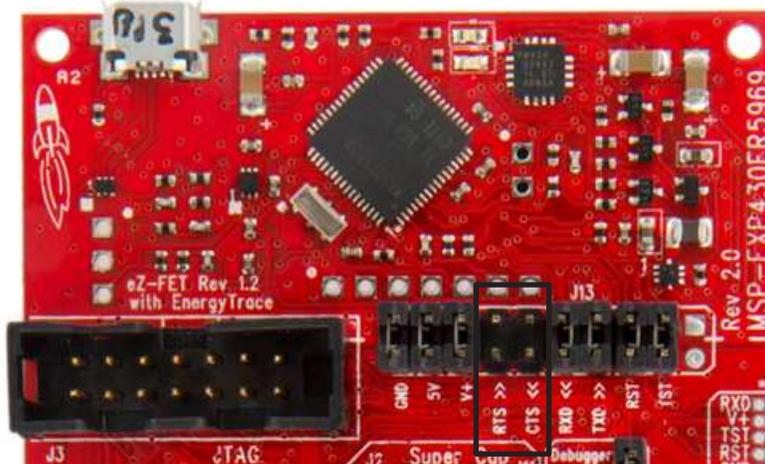

Figure 10. Remove RTS and CTS Jumpers From MSP-EXP430FR5969
3. Remove the jumpers on the MSP-EXP430FR5969 for RTS and CTS in J13. This code does not use these signals, and keeping them connected draws slightly more power (see Figure 10).